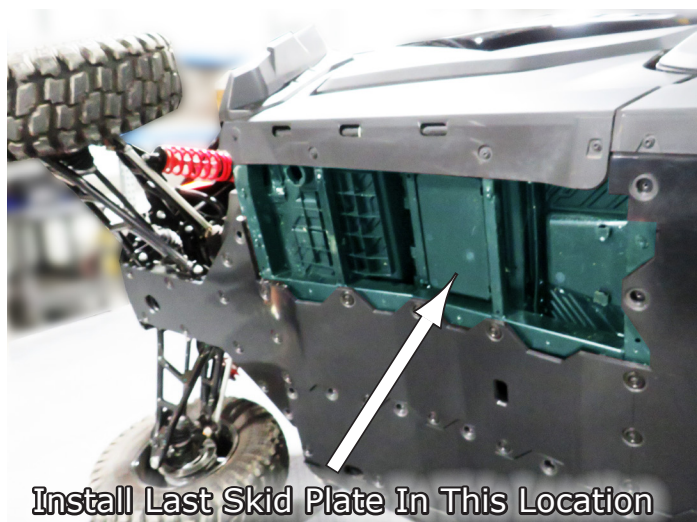
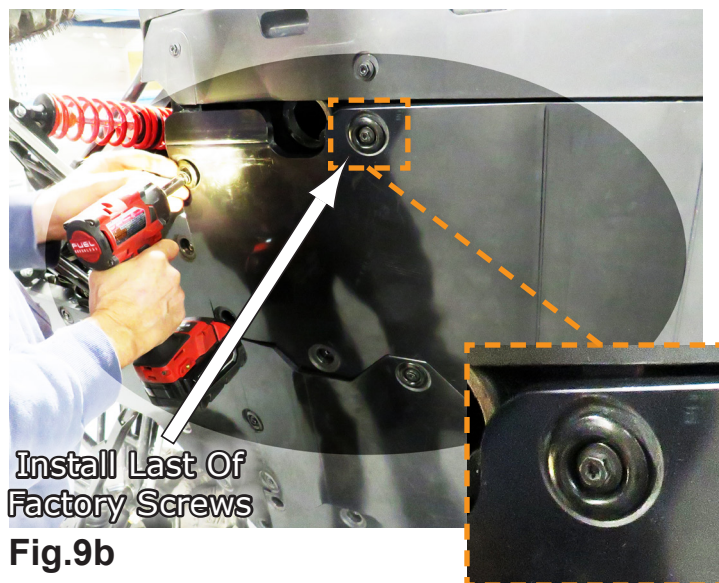

Fig.9a
Fig.9b
9. Now install the last side **Skid Plate** location as shown in **Fig.9a**. And install the last of the **Factory Screws** into this plate as shown in **Fig.9b**. Reference **Fig.1** for **Factory Screw Locations** for this last plate.